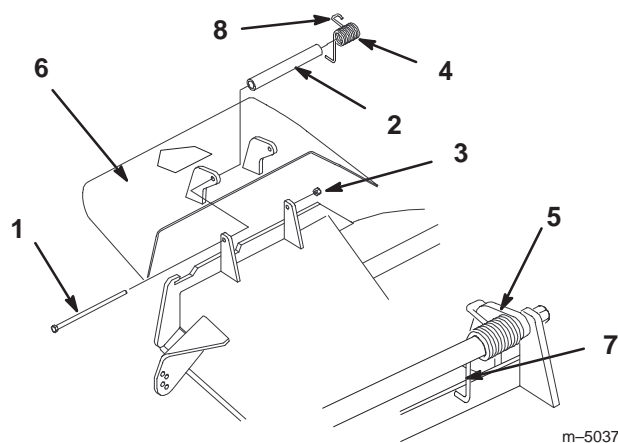

Figure 68
1. Remove the locknut, bolt, spring and spacer holding the deflector to the pivot brackets (Fig. 68). Remove damaged or worn grass deflector.
Note: Make sure the **L** end of spring is installed behind deck edge before installing the bolt as shown in figure 68.
3. Install bolt and nut. Place **J** hook end of spring around grass deflector (Fig. 68).